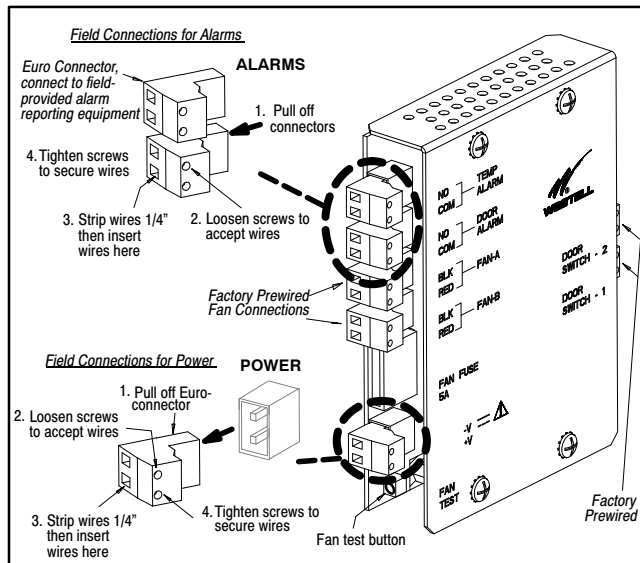

Figure 20. Euro-Connectors for Field-Connections
Follow the steps below to connect +24V or -48VDC fan power to the Euro-connector in the Controller Card in the Boxer cabinet. Always follow local codes and company practices, and see Figure 12 and Figure 20 as necessary.
6. **Pull out power Euro-connector.** Remove the 2-position Euro-connector near the bottom left corner of the Controller Card (pull it out, as shown in Figure 20). Loosen the small set screws in the connector to accept the wires.
7. **Connect power wires to loose Euro-connector.** Insert each stripped wire into the proper position (in the rectangular hole, see Figure 20) provided for it in the Euro-connector, holding each wire in place while tightening each screw.
2. **Remove all connectors.** Disconnect all other wire connections in the card by simply pulling off each Euro-connector in the controller card (on the card’s left and bottom edges, see Figure 20) in similar fashion, and labelling each connector as it is removed, to facilitate later re-connection with the replacement card. It is not necessary to remove any wires from the connectors (unless a fan is suspected of being faulty and is also being replaced).
5. **Test.** Verify the alarms work. Verify the fans are working properly by pressing the fan test button (see bottom of Figure 20 for location).